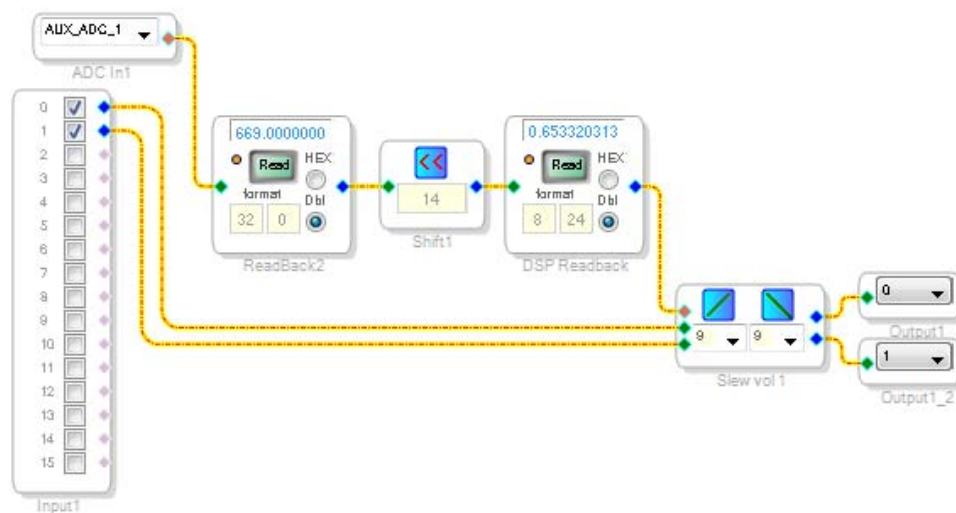

Figure 62. Completed Signal Flow with DSP Readback
- b. The arithmetic shift block performs a bitwise right shift or left shift. Click the blue button to select the direction. Ensure the block is performing a left shift. The block appears as shown in Figure 62.
- c. To set the number of bits by which the input is shifted to 14, click and type in the yellow text box. The block appears as shown in Figure 62.
7. Wire the blocks together as shown in Figure 62. Note that the position of blocks in the diagram does not matter.
The schematic (see Figure 62) shows audio from input Channel 0 and Channel 1 connected to the input of a volume control block. The volume is controlled by the value of the AUXADC1 channel, which is controlled by the left potentiometer (R1).